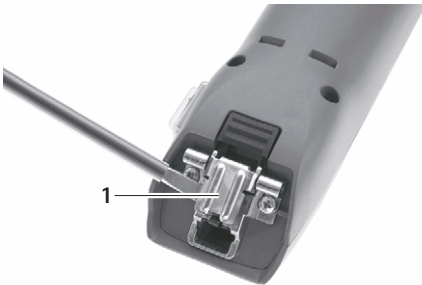

Fig. 1
- If the hinge is closed: Open hinge 1 with a screwdriver, see Fig. 1.